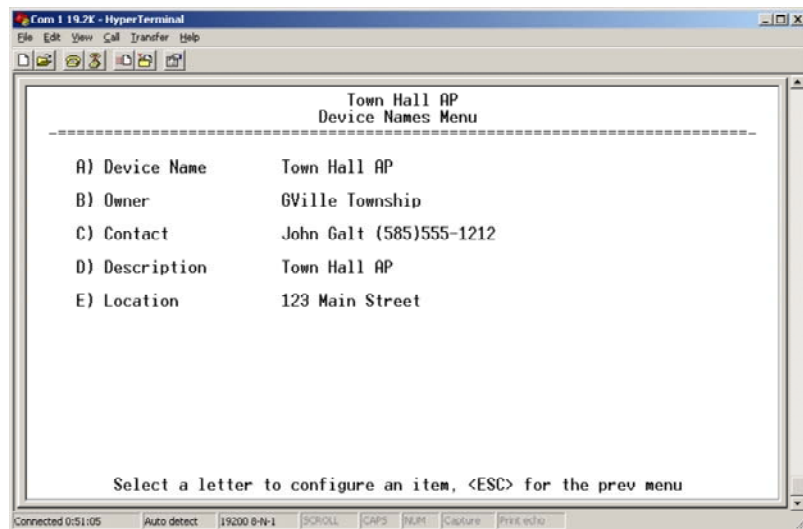

Figure 3-11. Device Names Menu
- **Device Names Menu**—Fields used at user’s discretion for general administrative purposes. The Device Name field is used by the transceiver as the “Realm” name for network security and in the MS screen headings. (See Figure 3-11 on Page 41)